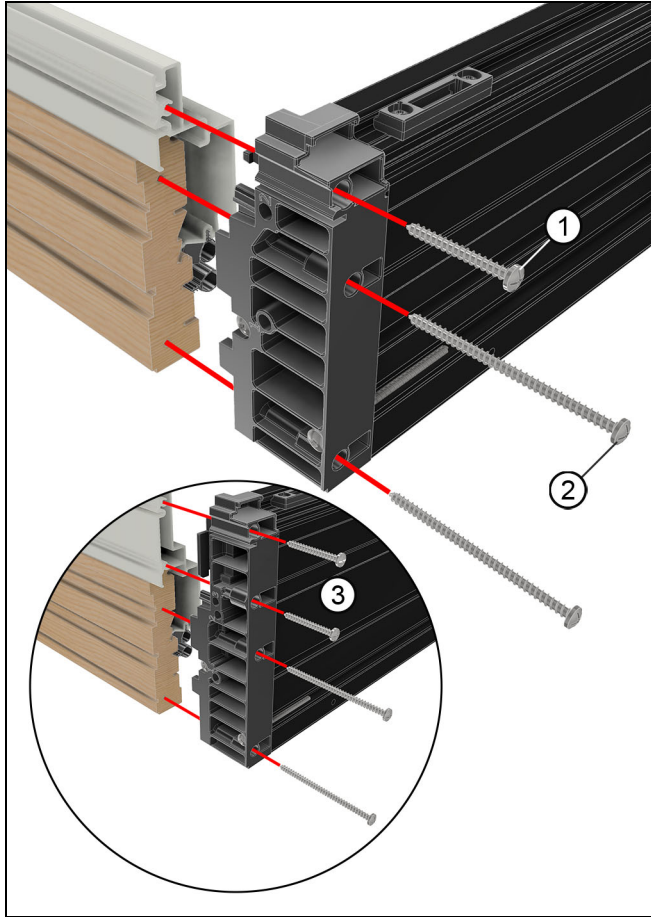
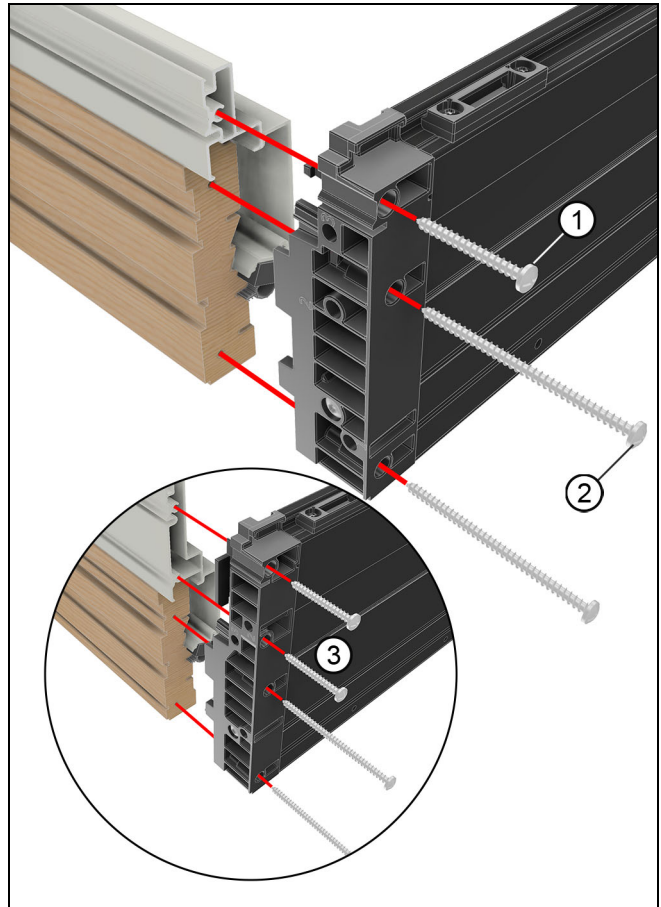

Figure 1 Performance sill
Figure 2 Accessibility sill
1. Align jamb sub assembly into sill key until fully seated. Once seated, use #8 x 1-1/2" pan head screw through the sill key into the jamb cladding. Use two #8 x 3" pan head screws to screw through the sill key into jamb wood. See Figure 1 (performance sill) and Figure 2 (accessibility sill).
On 6-9/16" jambs, each side will require two #8 x 1-1/2" screws (see insets in Figure 1 and Figure 2).